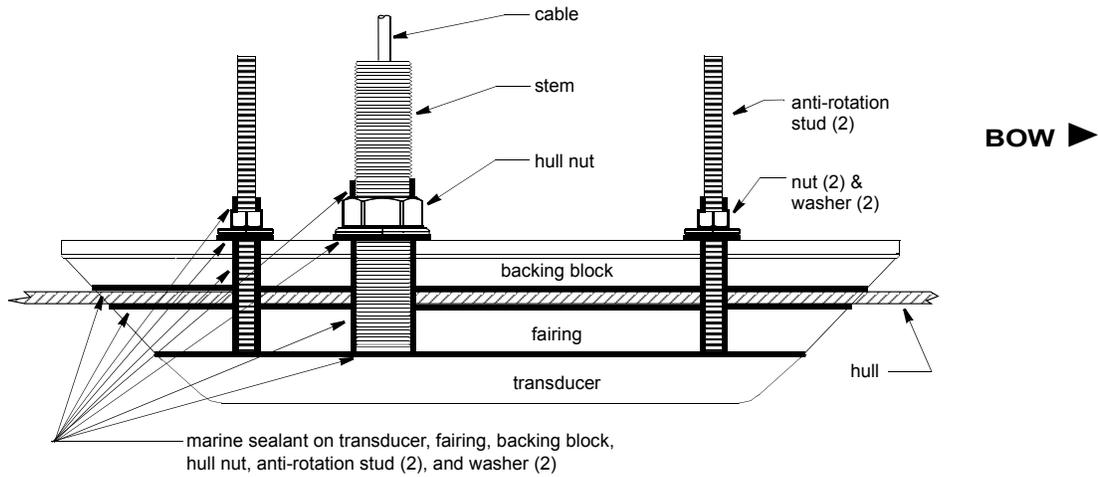

Figure 4. Bedding and installing with a fairing in a fiberglass or wood hull
- Place the fairing on the table so the cutting guide rests against the fence. The arrow will be pointing *toward* you for installation on the starboard side of the boat or *away* from you for installation on the port side (Figure 4).
- Locate and drill the holes for the transducer stem and anti-rotation studs, using the fairing as a guide (Figure 4, 5, 6, or 7). Align the fairing parallel to the centerline of the boat (keel) with the arrow facing forward toward the bow.
1. Remove the hull nut (Figure 4, 5, 6, or 7).